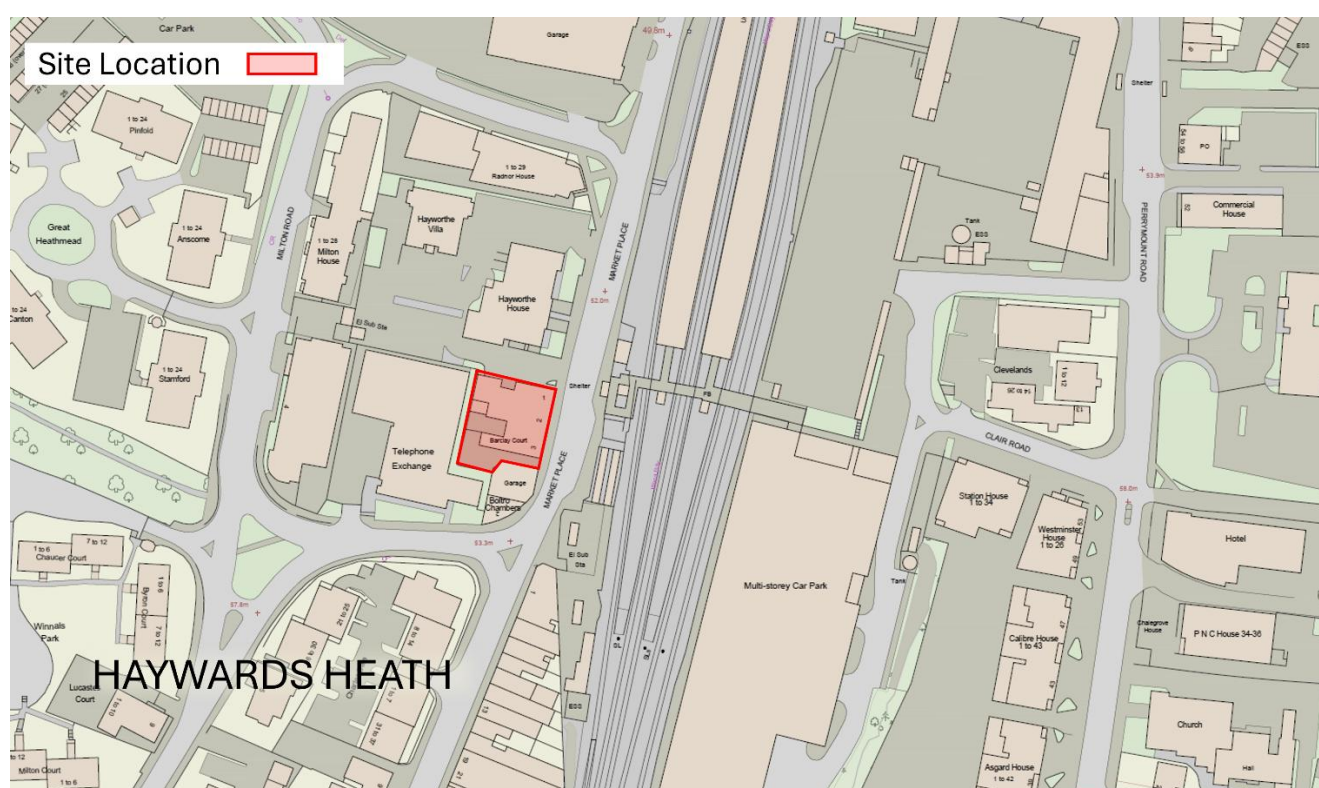

Figure 1.1: Site Location
- 1.1.2 The works pertain to the conversion of the former educational facility to residential land use, providing 10 flats (Use Class C3), including roof extension and alterations. This site has received recommendation for planning approval at committee under MSDC planning reference DM/23/3230. The site location and proposed development plans are shown in **Figure 1.1** and **Appendix A** respectively.